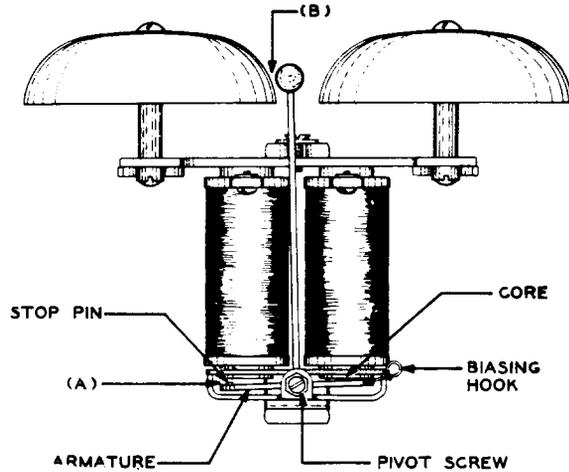

Fig. 3 - Ringers without Armature Stop Screw
(1) No. 40A, 40B, 55B, and 65B Ringers and the No. 38B, 51A, and 51B Ringers Having Solid Stop Pins: Fig. 3(A) - With the stop pin on either side resting against the core, the airgap between the stop pin and the core measured on the opposite side shall be